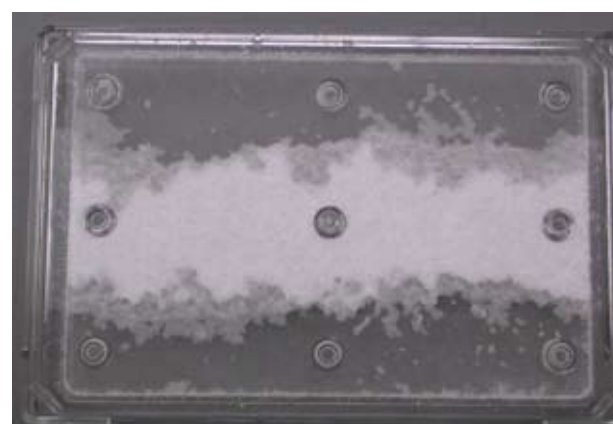

Figure 2b. Image of a lid filled from long sides
10. When the filling is completed properly, the filled lid should resemble the image in Figure 2b.